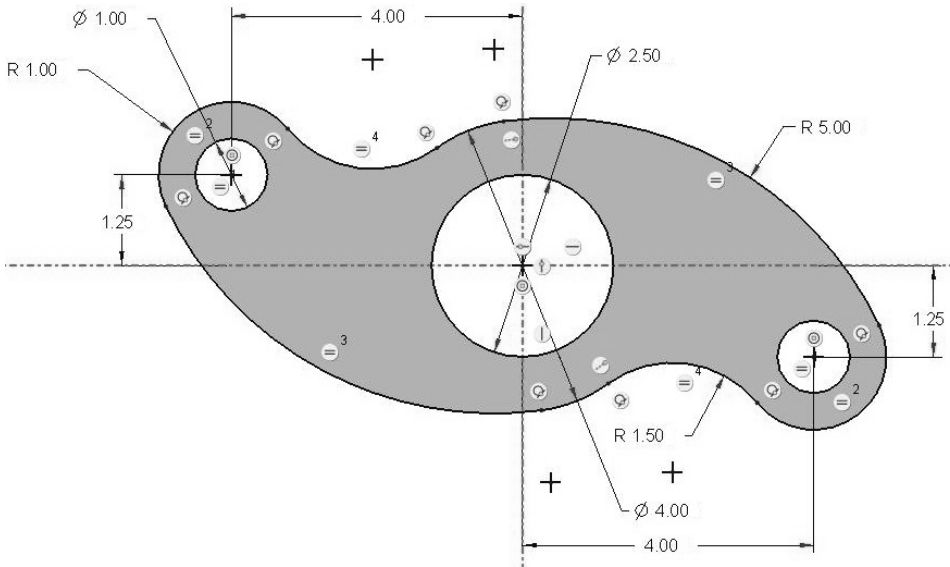

Figure 3-74 Problem 5—Rocker
- 3.5** Draw the front view of the "rocker" (Figure 3-74). Draw the centerlines first. **Design Intent**—The rocker is symmetric about the center hole. The right 1.00-inch diameter hole must be 4.00 inches right of the center hole and 1.25 inches below it. The left 1.00-inch diameter hole must be 4.00 inches left of the center hole and 1.25 inches above it. The arcs that form the perimeter are tangent to each other. **Hint:** draw circles tangent to each other, then trim them to form the arcs. Note that there are four different radius arcs 1.00, 1.50, 2.00 (diameter = 4.00), and 5.00. (>File>Options>Sketcher, change to 2-decimal places before sketching.)